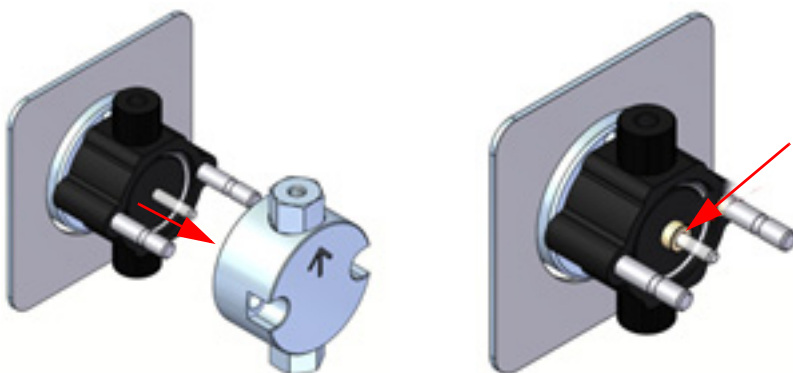

Figure 5-10 Removing the pump head
9. Carefully pull the pump head forward and off the guide pins. Pull straight and slowly to prevent damage to the piston (Figure 5-10).